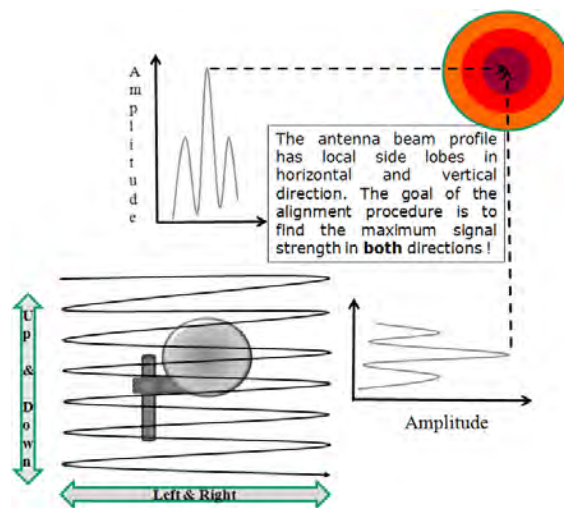

Figure 6-6: Simple illustration of the alignment process
6. Ensure that the antennas are not aligned on a side-lobe. When rotating the antenna a few degrees to each side of the perceived alignment center, both side-lobes can be detected as “local RSSI voltage minima”. The main lobe which is located right in the middle between the two side lobes will have a much higher voltage reading. Figure 6-6 shows a simple illustration of the alignment process and the location of the antenna side lobes in relation to the main lobe.